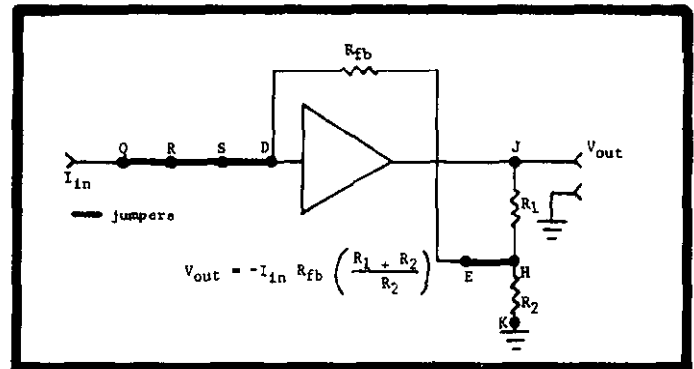

FIGURE 9. Linear Current Amplifier With Fractional Feedback.
- d. Connections for a linear current amplifier with a fractional feedback (Figure 9):
3. Mount fractional resistors R_1 and R_2 (Figure 9) across terminals J-H and H-K respectively.
2. Fractional feedback increases A and thus increases the output voltage, V_{out} . However, this method increases the drift proportionally as the output is increased. The proportionality constant, A, is increased by the amount $(R_1 + R_2)/R_2$. R_1 and R_2 are the fractional feedback resistors as shown in Figure 9. For construction of the fractional feedback, see paragraphs 2-7d and 2-7e.